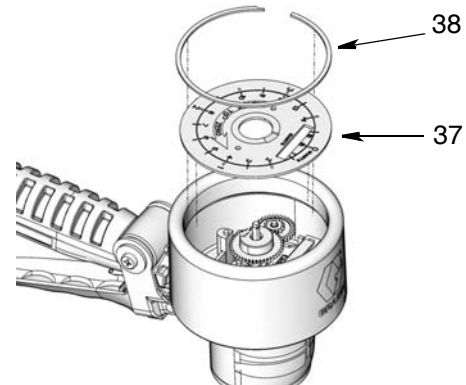

FIG. 22
3. Install the face plate panel (37) and large retaining clip (38) (FIG. 22).